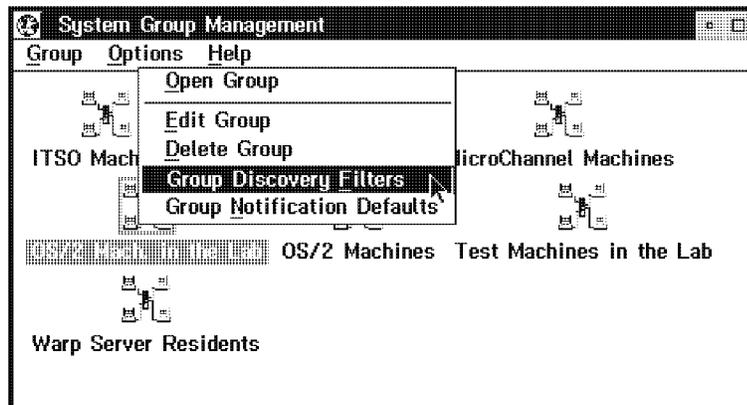
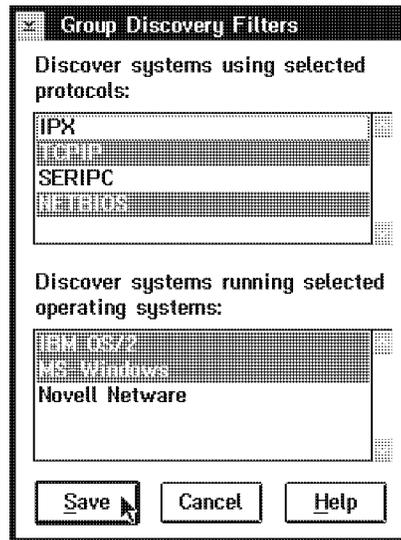

Figure 25. Selecting Group Discovery Filters
Figure 26. Group Discovery Filter Options
Open the system group, and then select **Group Discovery Filters** (see Figure 25 and Figure 26 on page 34).
In the example in Figure 26 on page 34, only TCP/IP and NetBIOS, and only machines with OS/2 and MS Windows, have been chosen for the Group Discovery.
- IPX Machines. Using Group Discovery Filters (see Figure 25 on page 33 and Figure 26 on page 34) and selecting only machines that run IPX.